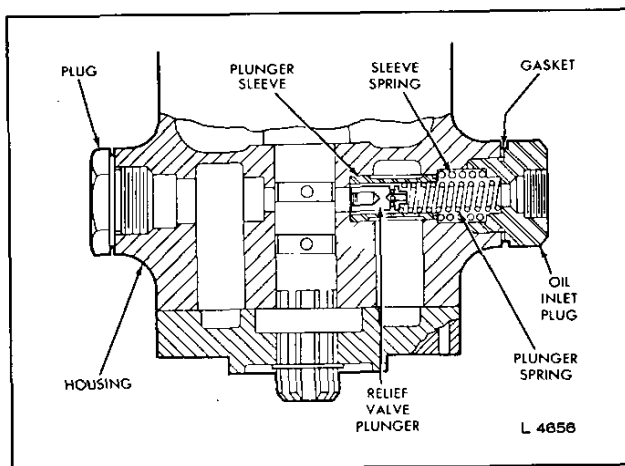

Fig. 13 - Location of Oil Relief Valve Plunger, Plunger Sleeve, Springs, Oil Inlet Plug and Dummy Plug in Governor Housing (R.H. Governor Shown)
8. Refer to Fig. 13 and install the relief valve plunger, plunger sleeve, plunger retaining spring, sleeve retaining spring, oil inlet plug and dummy plug in the governor housing as follows: